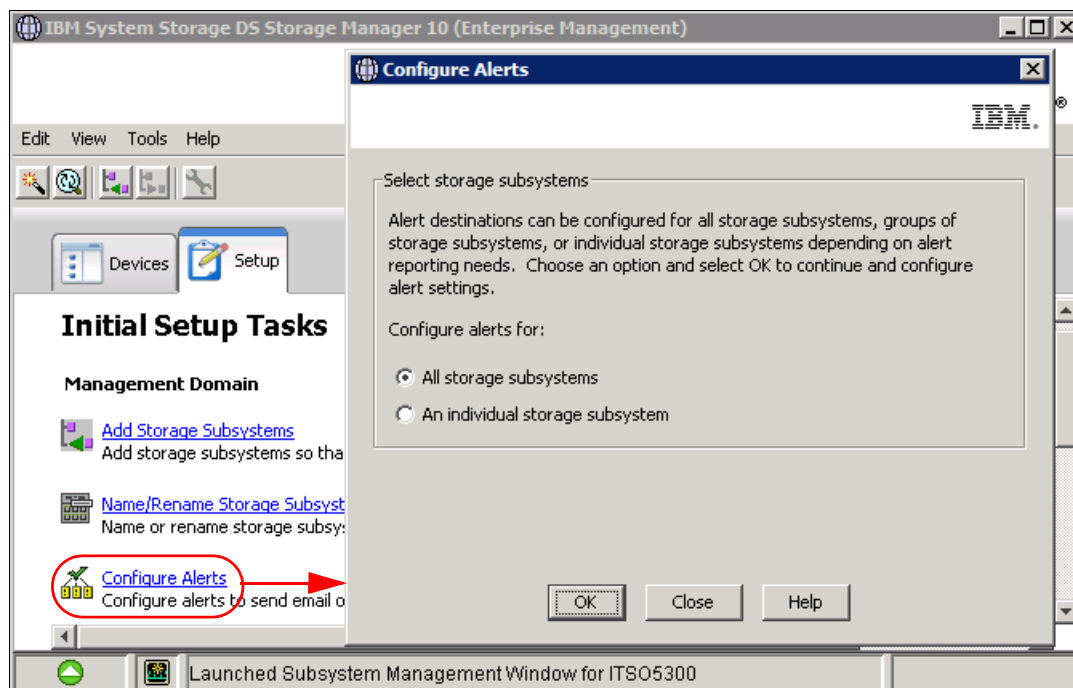

Figure 3-90 Selecting the Configure Alerts option
3. If you right-click your local system in the Enterprise Management window (at the top of the tree) and choose **Configure Alerts**, this applies to all storage subsystems listed in the Enterprise Management window. If you want to monitor only one subsystem, then click that particular one and select **Edit** → **Configure Alerts**. You can also select the **Setup** tab of the Enterprise Management window, and then select the **Configure Alerts** option. You will be prompted about whether you want to configure alerts for all storage subsystems or any one in particular, as shown in Figure 3-90.